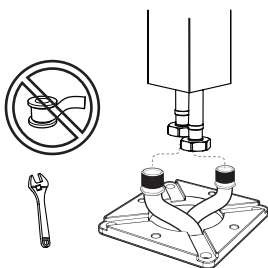

Figure 26
6. Connect the cold and hot water inlets as shown in Figure 26. Turn on water supply and check for leaks.